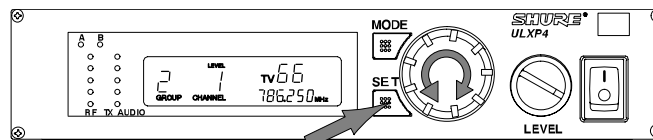

FIGURE 46
- NOTE:** If the volume control knob has been set to a level higher than the locked level, the output level will remain locked and the Volume Level warning indicator will flash on the receiver display. See Figure 46. Rotate the volume control knob counterclockwise until the Volume Level warning indicator stops flashing. This will unlock the output level setting.